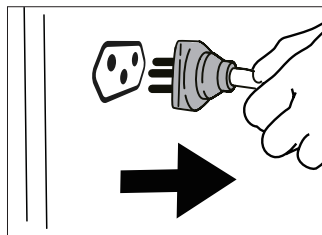

Fig. 15
2. Desconecte as tomadas do painel do gerador [Fig. 15].